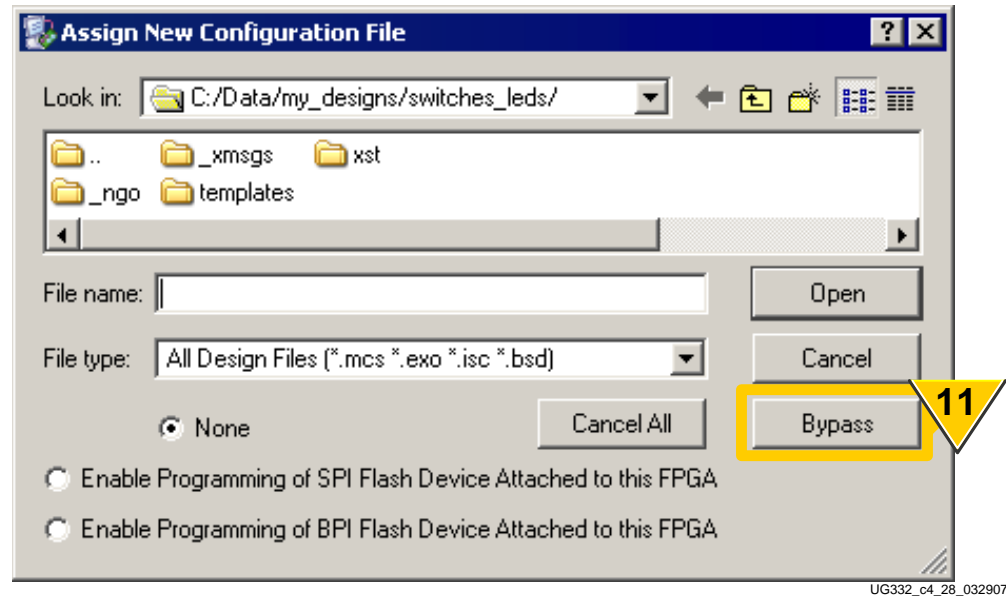

Figure 12-16: Bypass the Platform Flash PROM
11. Select **Bypass** when prompted for the Platform Flash PROM programming file, as shown in Figure 12-16.